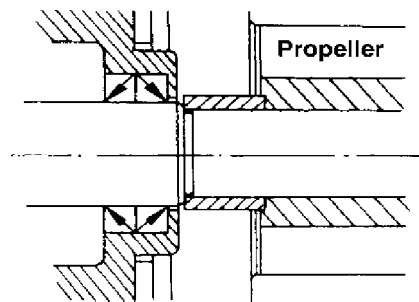
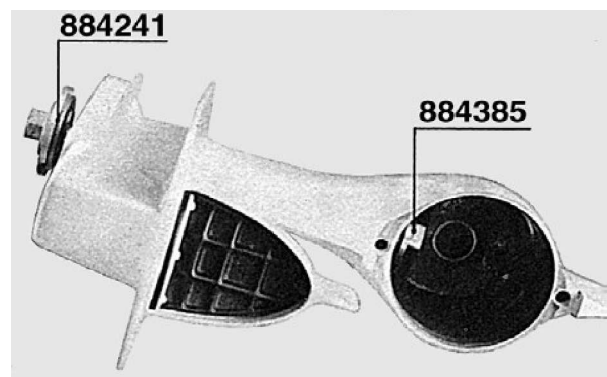

Fig. 33.
Fig. 34.
1. Lubricate and fill both the sealing rings (32) with grease and press them into the propeller bearing housing with the help of tools 884283 and 9991801.
**NOTE:** Turn the sealing rings so that they seal against oil in the gear housing and against water. See Fig. 33.
2. Fit the needle bearing (12) for the propeller shaft. The side of the bearing on which the designation is stamped should face inwards. Use tools 884283 and 9991801.
3. Pull in the roller bearing outer ring (6) for the vertical drive shaft (8). Use tools 884241 and 884385.
**NOTE:** Face the open side downwards and make sure the 27 needles are fitted. Grease the needles. See Fig. 34.